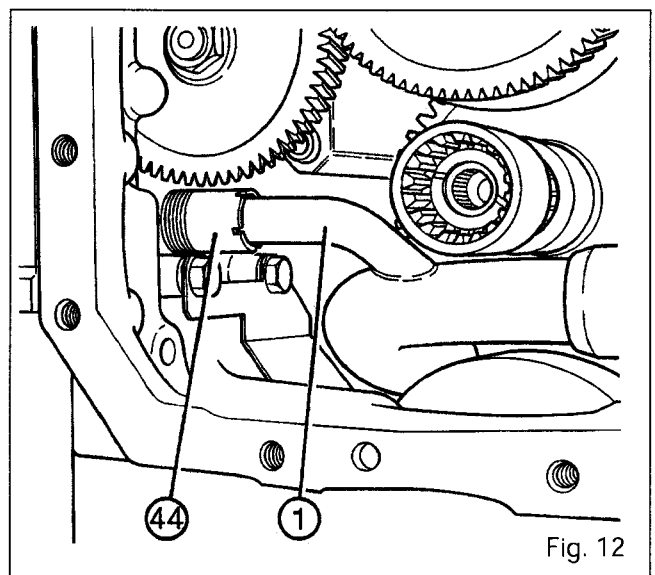

Fig. 12
14. Slide the cover onto the studs and apply it onto the centre housing, checking that the suction pipe **(1)** is correctly positioned on the 5-bar valve **(48)** between the mating faces between the cover and the housing (Fig. 12).